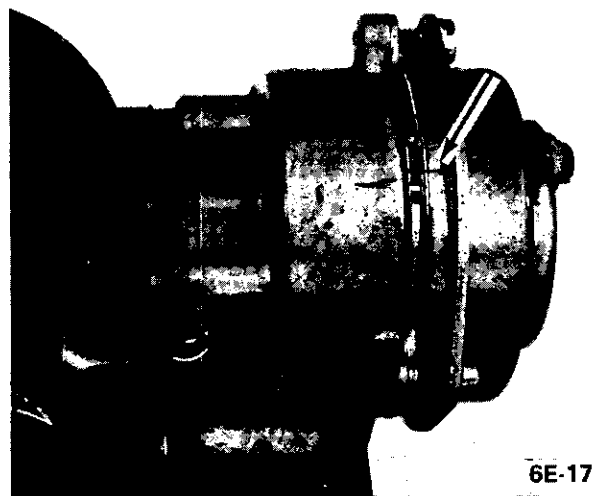

Figure 6E-17 Choke Housing Set on Index
3. Make sure that choke housing is set on index and that choke valve is nearly closed at room temperature. See Figure 6E-17. Make sure choke valve is free in all positions.